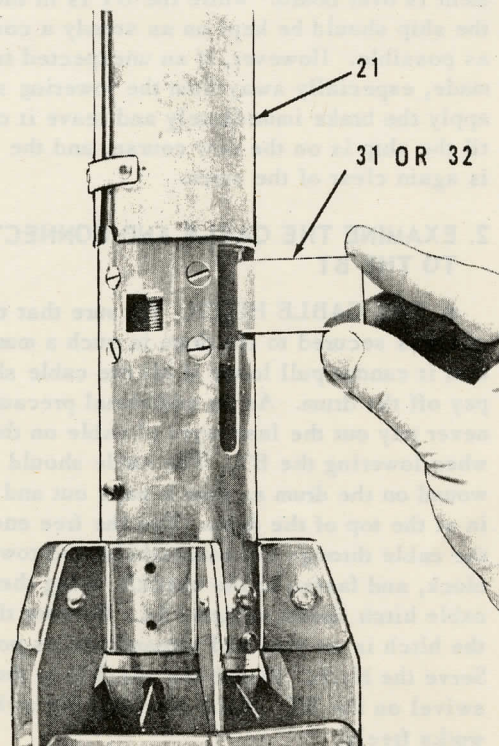

Figure 3-3. Inserting Slide
e. INSERT THE SLIDE. Insert the slide into the grooves of the slide holder, as shown in figure 3-3, so the edge with the beveled corners enters first, with the longer bevel toward the nose of the BT. This positions the coated surface under the stylus.